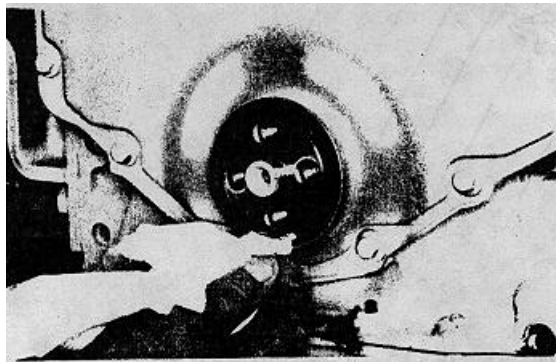

FIGURE 3-52. Cleaning Seal Surface.
- g. Clean and dry the sealing surface. (FIGURE 3-52)